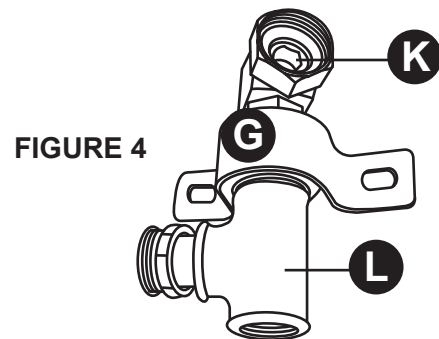

FIGURE 4
4. Insert the Brass Swivel (K) through the U-bushing (G) and screw the end of the swivel into the galvanized tee (L). See Figure 4. Using a wrench, tighten the swivel into the galvanized tee. Tighten securely but do not over tighten. Over tightening the swivel could cause leakage.